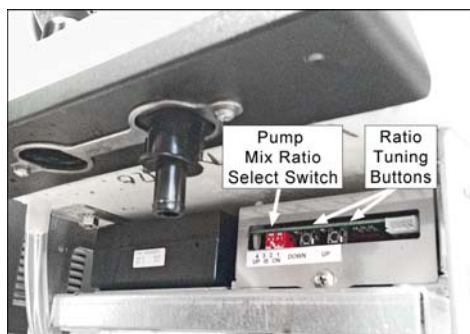

Figure 4-3 - Ratio Select Switch & Tuning Buttons
1) Set the DIP switch for a ratio (Fig. 4-3).
For each method, access the mix-ratio control switches (Fig. 4-3) by removing the splash panel. NOTE: Only one ratio select switch is allowed to be On, with all others Off.